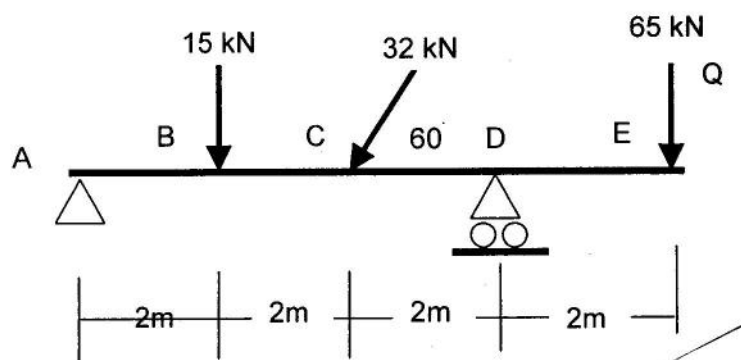

Fig. 3
17. Draw the SFD and BMD for a simply supported beam loaded as shown in figure 3. Using graphical method.